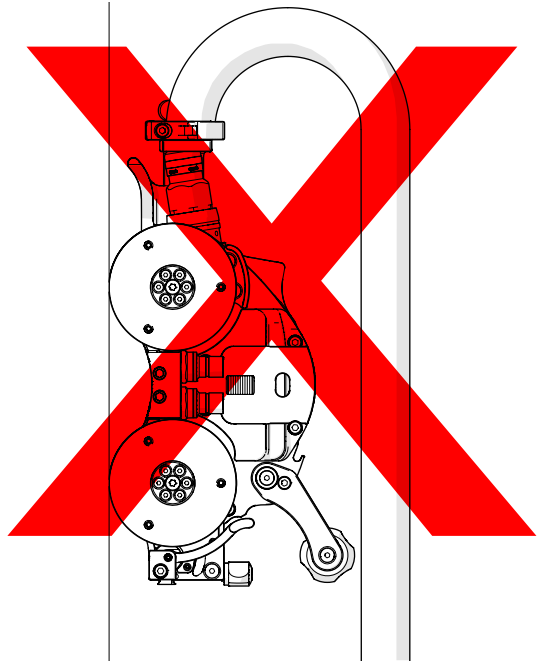

Fig. 60 - Incorrect umbilical use
**WARNING! FALLING OBJECT HAZARD.** or operating at heights greater than 2 m (6 ft), ensure the umbilical strain relief never points upwards as shown in (*Fig. 60*). The crawler could fall. **SEVERE INJURY** or **DEATH** could result.
3. Ensure the umbilical strain relief never points downwards during operation (Fig. 60).